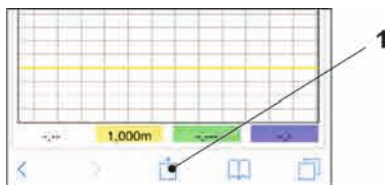

Fig. 31-16 Set up link
8. Use the symbol “Provide” (Fig. 31-16 no. 1) to set up a link on your home screen (for direct access).